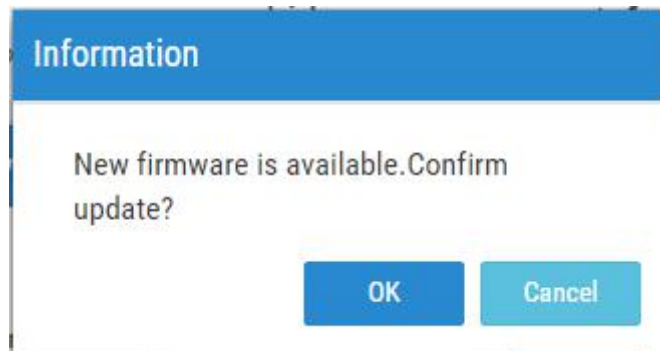
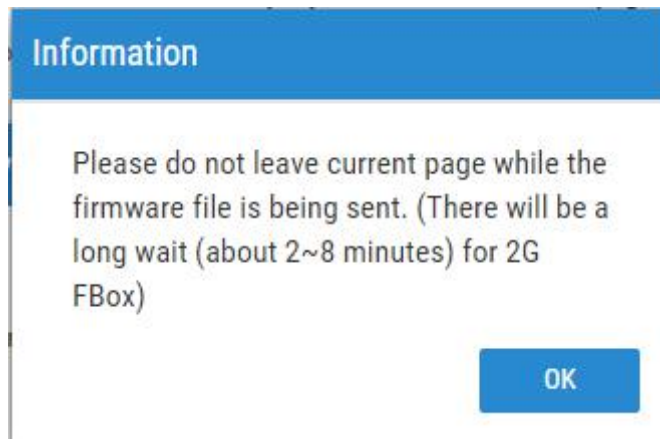

Fig. 4.5-8 System message 1
Fig. 4.5-9 System message 2
(2) A system message box will pop up to remind you to perform the update operation after you clicking the "Update" button, as shown in Fig. 4.5-8. The second system message box will pop up to remind updating after you click the "OK" button, as shown in Fig. 4.5-9.